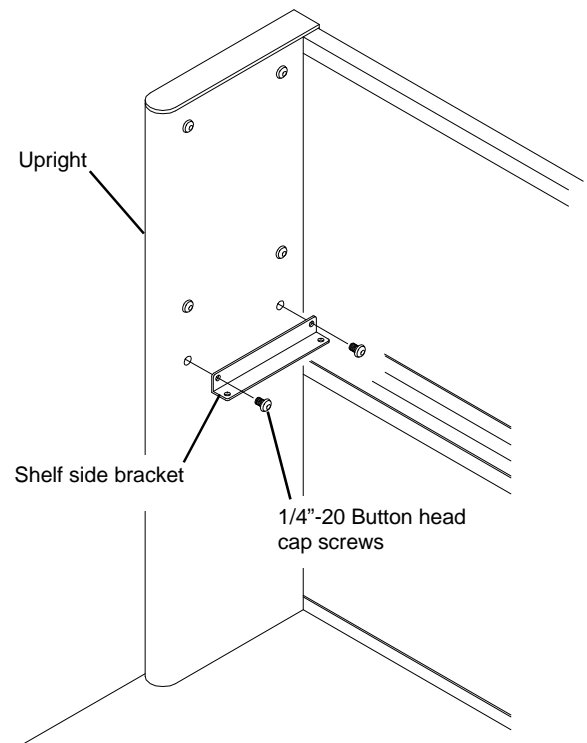

Figure 3
2. Fasten one **Shelf Side Bracket** to each Upright at the desired Shelf height using the Button head cap screws removed in Step 1 and tighten securely. See **Figure 3**.